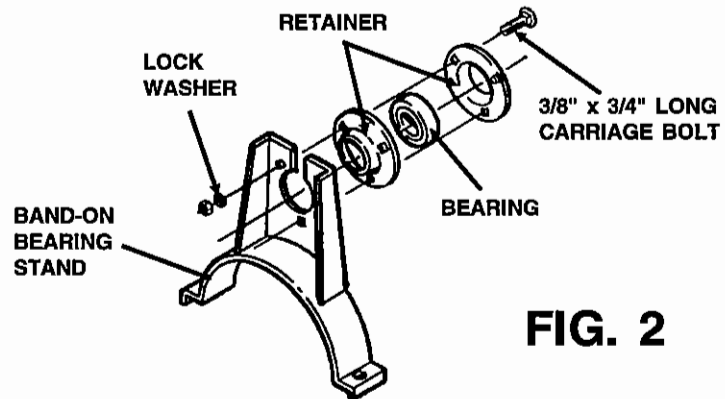

FIG. 2
1. Bolt bearing to bearing stands. Attach each bearing using two retainers. See Fig. 2.